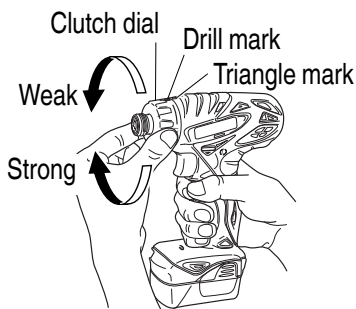

Fig. 5
5. Confirm the clutch dial position (See Fig. 5)
(2) Tightening torque indication (See **Fig. 5 on page 23**)
(3) Adjusting the tightening torque (See **Fig. 5 on page 23**)